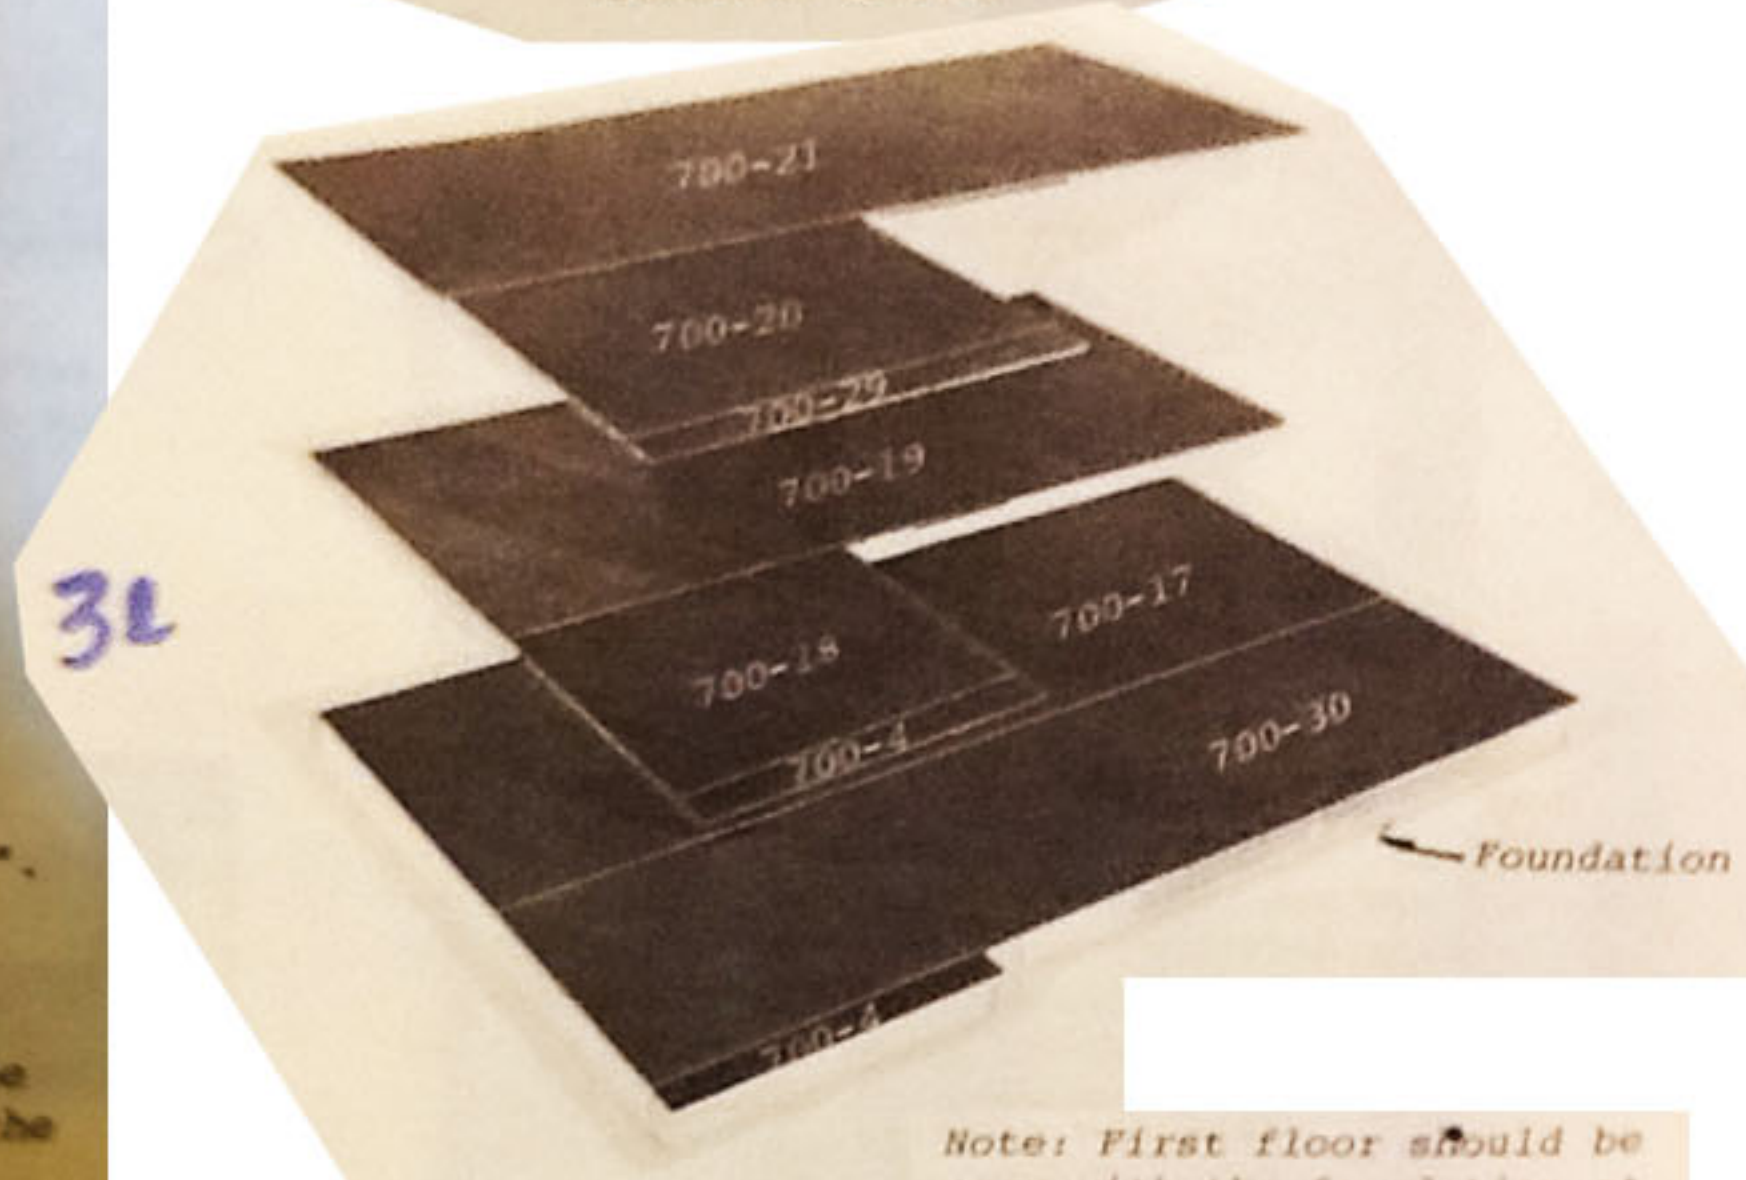

Figure 2
1. The flooring assembly is very stright forward. Most of your guidance will come from referring to figure 2.
15. Before doing the other floor, notice in figure 2 that the left edge of the attic floor overhangs the second floor by 3/4". The right edge of the attic and second floor do, however, line up.